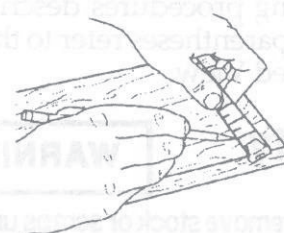

Fig. 10
8. Use a pencil, as in Fig. 10, to make a mark about 1" to 2" from the edge of a jointed board approximately 3/4" thick x 7" wide x 18" long. Make a mark on the other end the same width as the first one, as seen in Fig. 11.